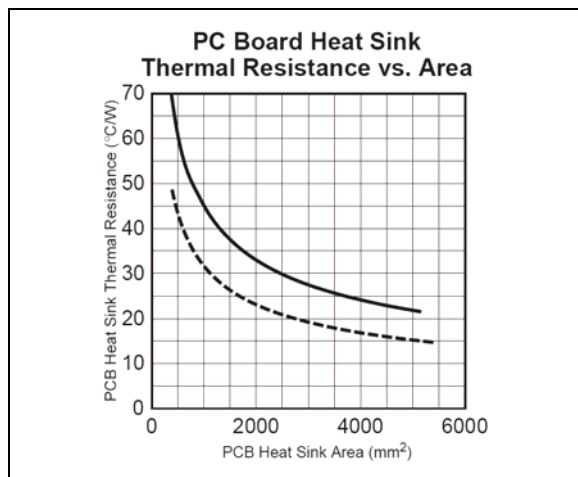

FIGURE 4-4: Excerpt from the LDO Book.
- $R_{\theta CA} = 53^{\circ}\text{C}/\text{W}$ (as read from Figure 4-4)